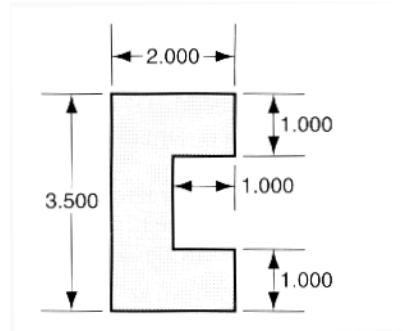

Figure 1. Blanking part geometry.
3. A blanking die is to be designed to blank the part shown in Figure 1. The material is 5/32 in thick 302 stainless steel.